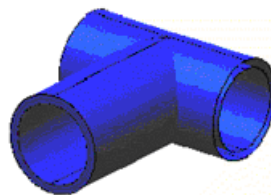

Figure 28. Creating a NURBS surface to close the outlet in the foreground
- 2 . Choose **Geometry->Create->NURBS Surface->By contour** and then select the lines defining the outlet in the foreground of Figure 28. Press **ESC** (see Figure 28).